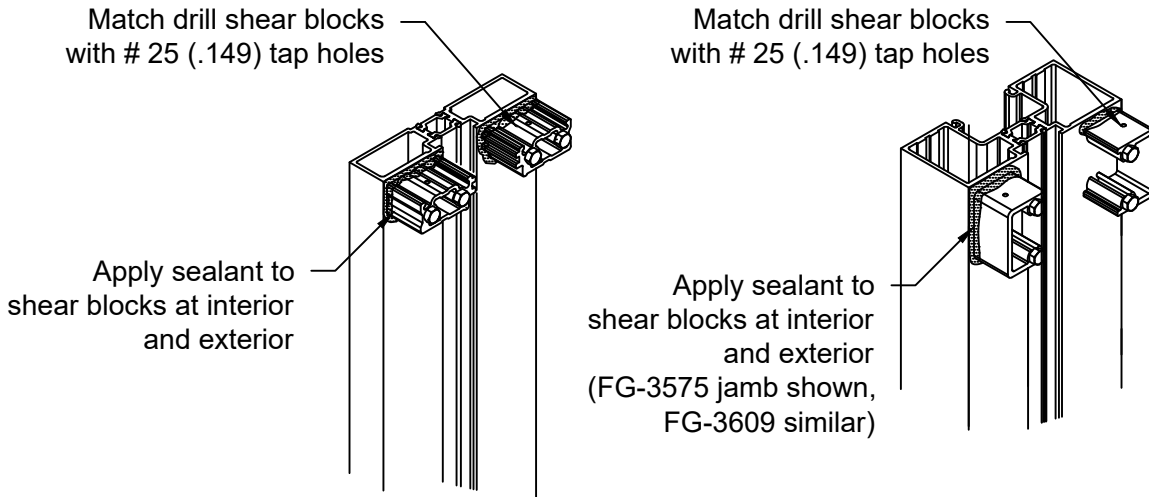
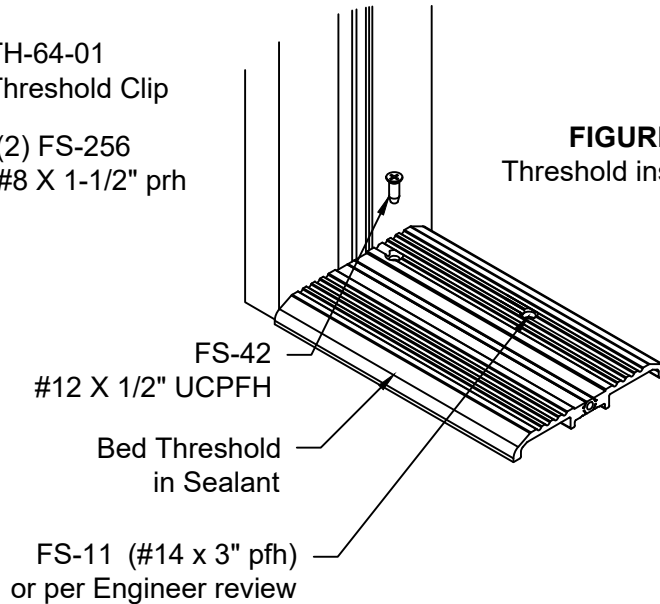

FIGURE 4
FIGURE 6
3. Apply sealant along exterior and interior faces of shear blocks as shown in FIGURE 4, pg 8.
4. Assemble door header to jambs by sliding header over shear blocks and attaching using (2) FS-42 #12 x 1/2" flat head screws. Clean excess sealant from exposed surfaces after assembly.
5. Attach threshold to clips using (1) FS-42 #12 x 1/2" undercut flat head fasteners, See FIGURE 6, pg. 8. Note; threshold will be removed once frame is installed into opening to seal and drill for anchors.
4. Apply sealant along exterior and interior faces of shear blocks as shown in FIGURE 4, pg 8.
5. Assemble door header to jambs by sliding header over shear blocks and attaching using (2) FS-42 #12 x 1/2" flat head screws. Clean excess sealant from exposed surfaces after assembly.